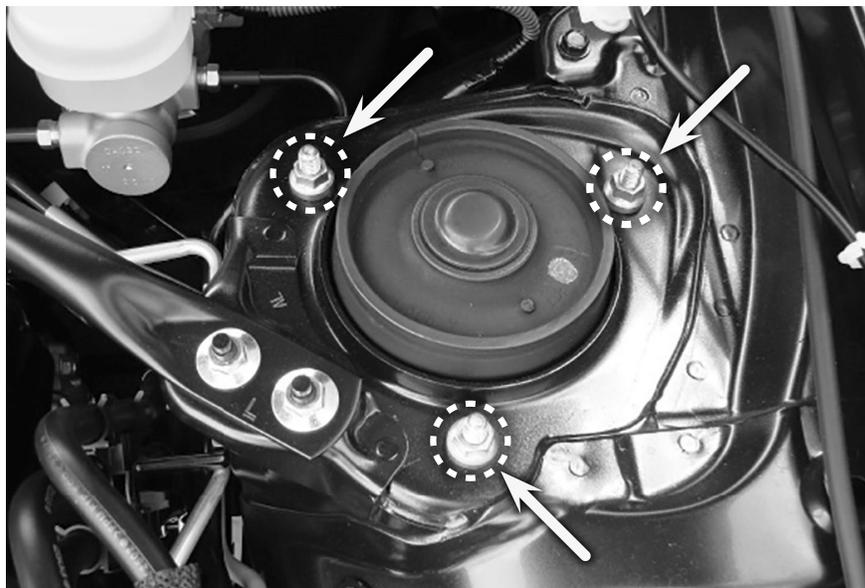

Fig. 5
4. While supporting the strut, unthread the three upper bracket nuts within the engine compartment and remove the strut from the vehicle. (Fig. 5)